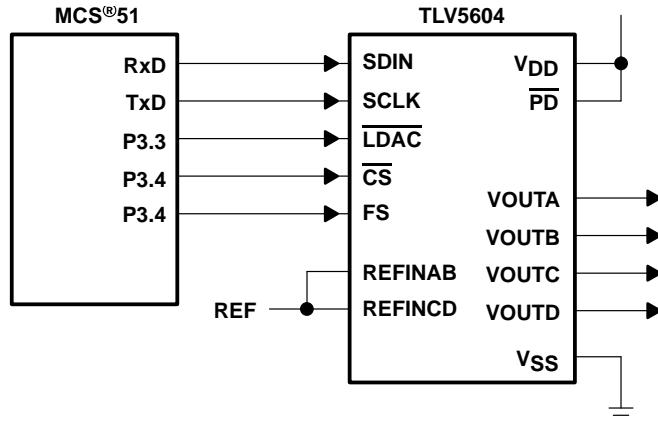

Figure 18. TLV5604 Interfaced with MCS®51
Figure 18 shows an example of how to connect the TLV5604 to an MCS®51 Microcontroller. The serial DAC input data and external control signals are sent via I/O Port 3 of the controller. The serial data is sent on the RxD line, with the serial clock output on the TxD line. Port 3 bits 3, 4, and 5 are configured as outputs to provide the DAC latch update (LDAC), chip select (CS) and frame sync (FS) signals for the TLV5604. The active low power down pin (PD) of the TLV5604 is pulled high to ensure that the DACs are enabled.